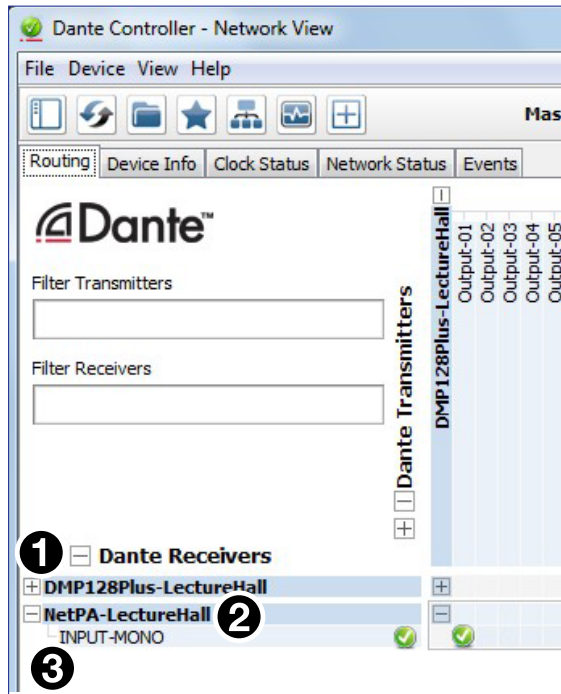

Figure 17. Expanded Device View – Input and Output Names
To view the inputs of a receiver device on Dante, click the + sign next to the receiver name to expand it (see figure 17, ❶, for an example).